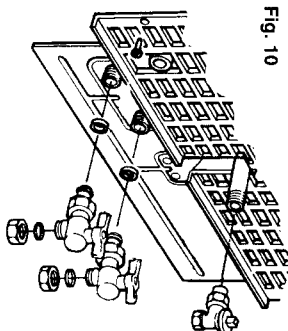

Fig. 10
Loosely fit (hand tight) the valves and fittings using the washers supplied (fig 10)
- 5.5.17 Referring to fig 10 fit the large maintenance clips into position and secure the clip screws.
Figs 10 and 14 show the locations of the fittings.